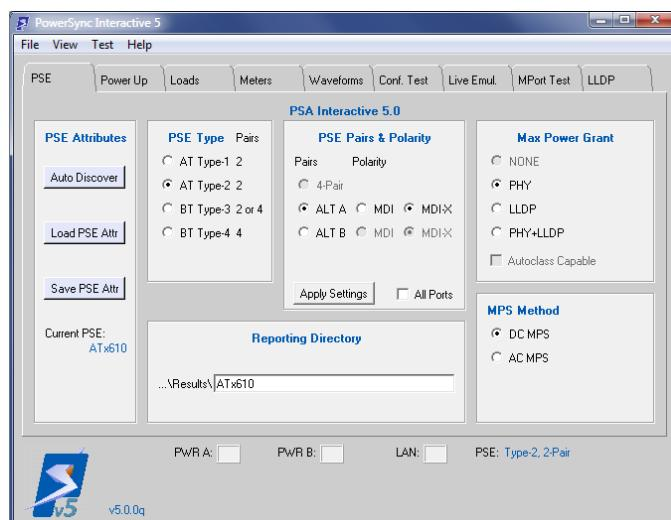

Figure 4.6 PSE Tab Menu
- The Tab Menu Window (see **Figure 4.6**)
appear in many “flavors” and the means by which those ports are evaluated is very dependent on these facts, or **PSE Attributes**. This is why the **PSE** tab menu is the first menu to appear when PSA Interactive opens (*see Figure 4.6*).